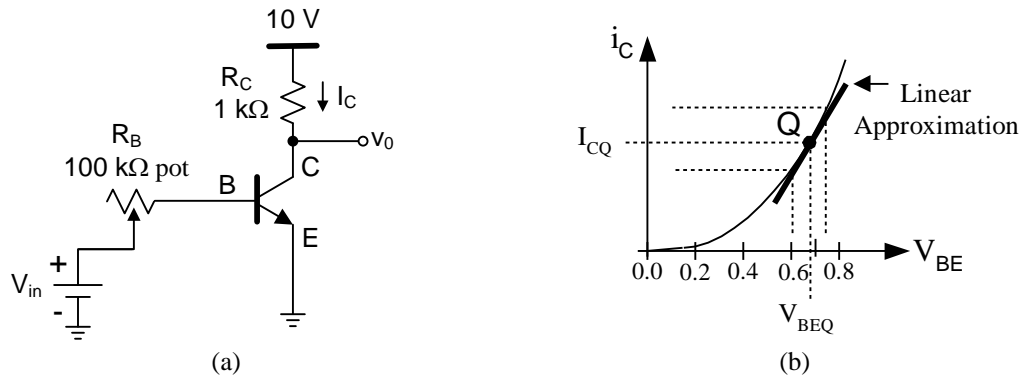

Fig. 2. (a) BJT transistor circuit 1 and (b) input characteristics for the BJT if $V_{CE} > V_{CESAT}$
For base-emitter voltages below 0.5 V, the collector current is very small, typically less than 1 μ A. It will be evident in the next sections that the BJT is often operated with larger collector currents and base-emitter voltages; e.g. $V_{BE} > 0.5$ V. When a base-emitter voltage is selected, the collector current is fixed; the operating (quiescent) point Q is therefore determined by V_{BEQ} and I_{CQ} . The derivative of this function evaluated at the operation point Q is defined as the small signal transconductance, computed from Fig. 2 as:
2. For the circuit in Fig. 2(a), compute the current I_B and I_C , and the voltage V_C for at least 5 input voltages within the range $V_{BE(on)} < V_{in} < 1$ V, use $R_B = 100$ k Ω .
3. For the circuit in Fig. 2(a), if the V_{BE} was set to 0.1 V, what would you expect for the value of V_C ?